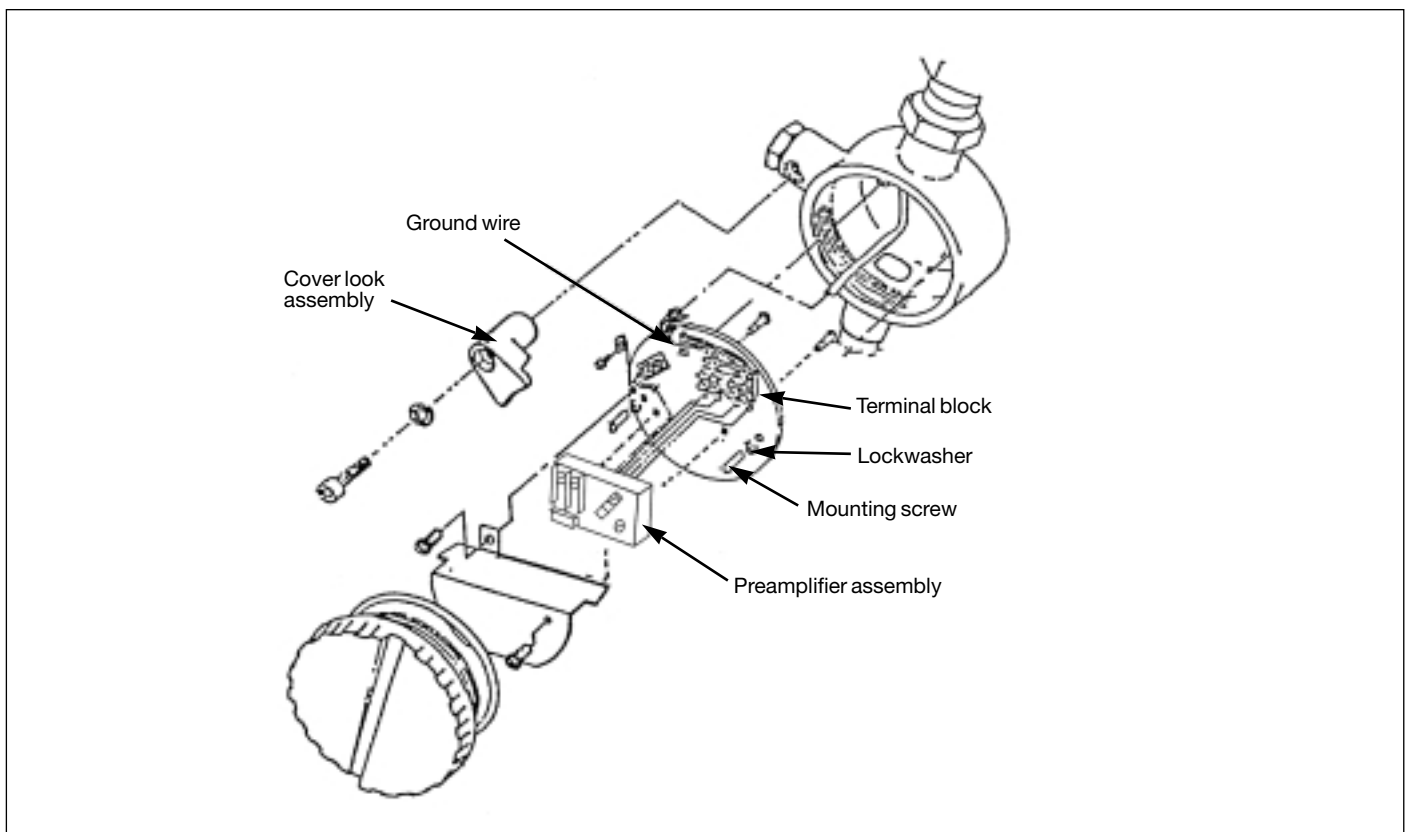

Figure 24: Preamplifier - Remote Mounted VFM 3100 (CENELEC Certified Flameproof)
- Remove power from the VFM 3100. The transmitter and junction box of a remote mounted CENELEC certified flameproof VFM 3100 have locks on their covers as shown in Figure 24.
- Remove shield covering the Preamplifier and disconnect the ground lead from U-shaped metal strap on the mounting plate (Figure 24).
- Mount metal shield over the pre-amplifier as shown in Figure 24.
- Remove junction box cover (for CENELEC Certified Flameproof VFM 3100, remove lock assembly and cover). See Figure 24.